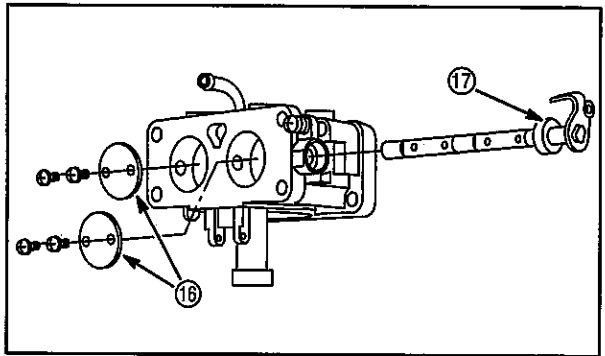

Fig. 122
- Mark throttle plates (16), Fig. 122, before removal so they will be re-installed in the original position. Sides of throttle plate are beveled.